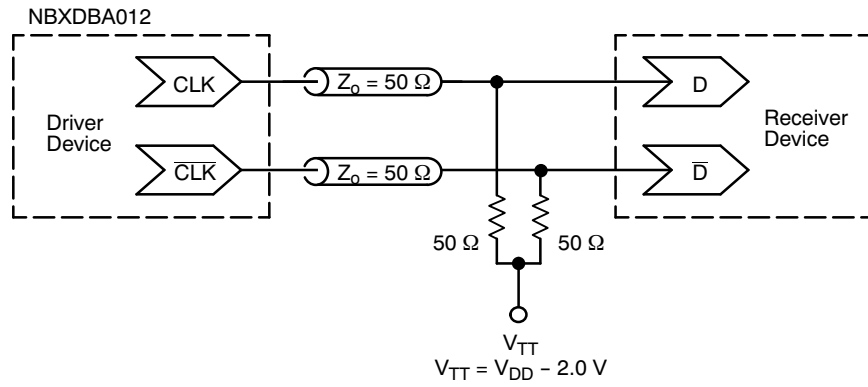

Figure 7. Typical Termination for Output Driver and Device Evaluation
3. Measurement taken with outputs terminated with 50 ohm to $V_{DD}-2 \text{ V}$. See Figure 7.